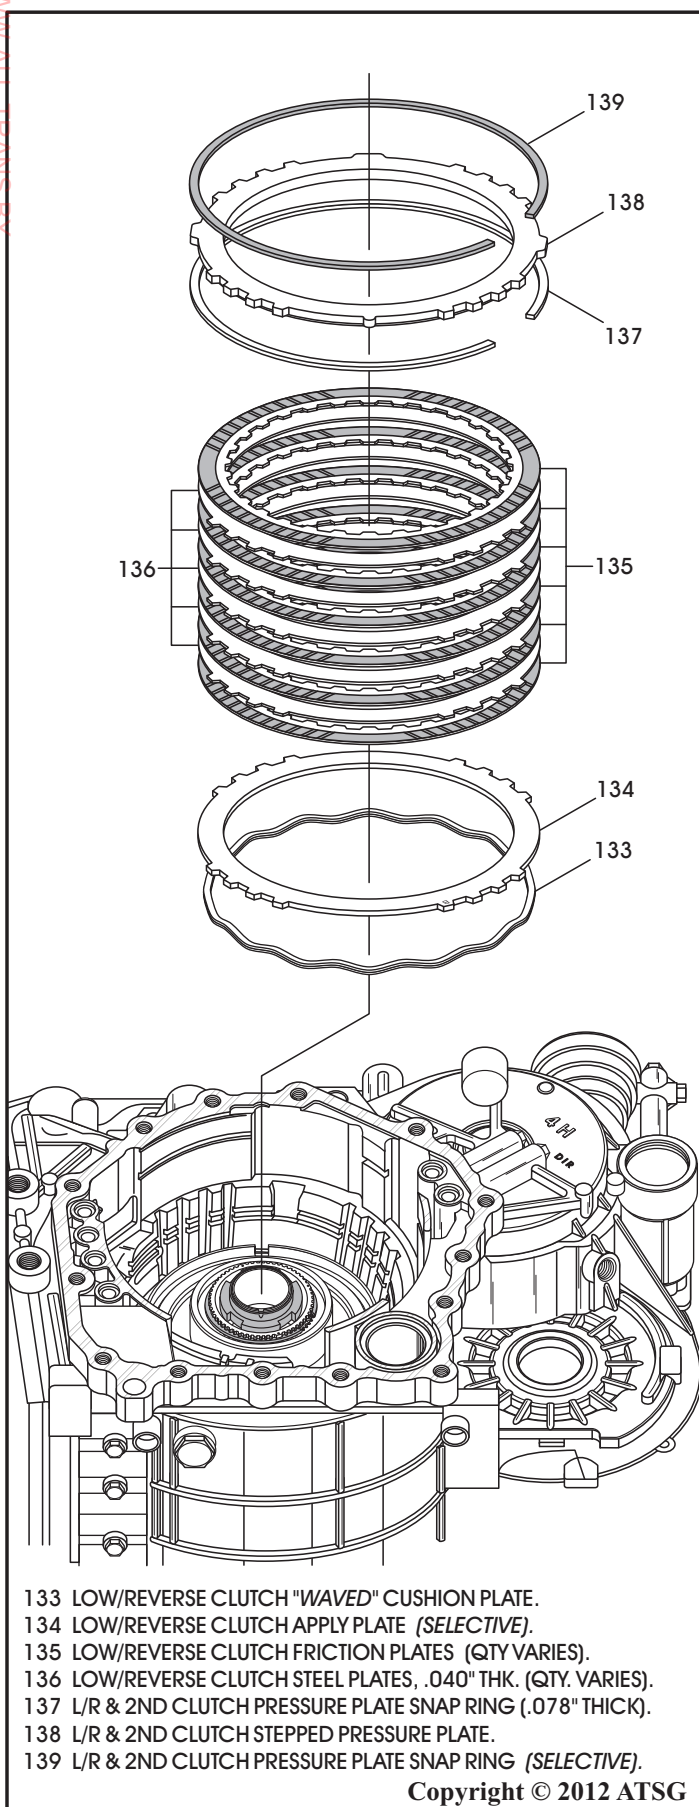

Figure 247
17. Install the low/reverse "Waved" cushion plate, as shown in Figure 247, on top of piston.
18. Install the low/reverse clutch selective apply plate, as shown in Figure 247.
19. Install the low/reverse clutch plates beginning with a friction and alternating with steel plates, as shown in Figure 247 (Quantity will vary).
20. Install the .078" snap ring into the case groove, as shown in Figure 247.
21. Now, install the last friction, the pressure plate with step **down** and the selective snap ring, as shown in Figure 247.